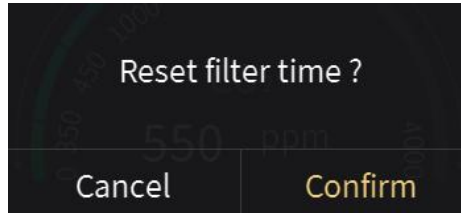

Fig.2.6.5
setting value, the alarm status can be issued through the bus, and the remaining filter timer value can be displayed to be 0%. When touch icon⑧, the filter time can be reset, as shown in Fig.2.6.5 below. After clicking “Confirm”, the filter timer value can be reset to 100%.